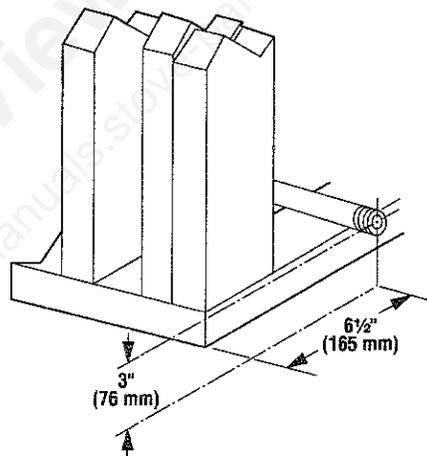

Figure 8
**Step 2.** Route a ½" (13 mm) gas line along the left or right side framing (Figure 8).